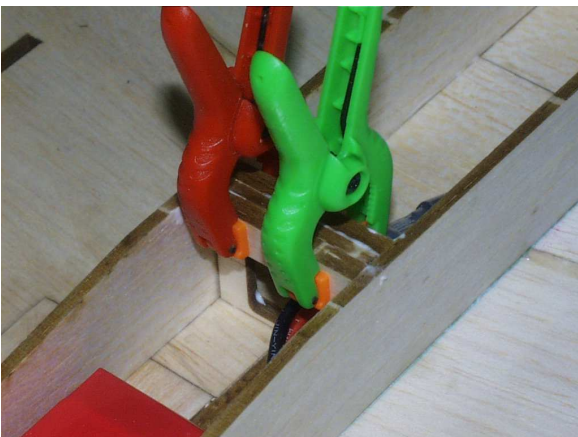

Figure 4.7: Two F1 reinforcements
- Glue in both F1 reinforcement braces (Figure 4.7)